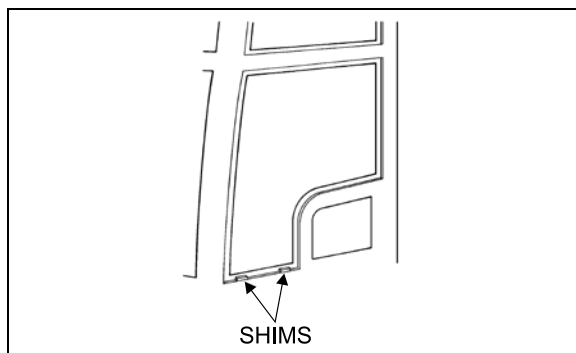

FIGURE 44: ADHESIVE-MOUNTED WINDOW 18079
Use small shims to raise the glass in proper position. Shims can be cut from the tremshield tape (Figure 44).
1. Align the leading edge of the slot on the lower cam follower block with the sash stop. Use the power toggle switch to obtain the correct alignment. (Figure 44)